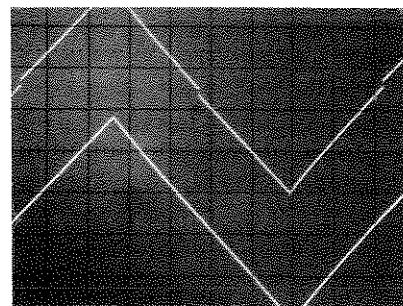

Figure 5-1. Ramp Distortion Adjustment
4.2 Adjust A10R212 for min. ramp distortion (Figure 5-1).